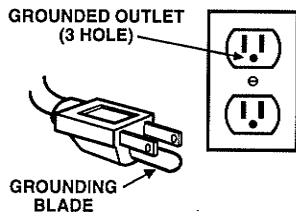

FIG. 2
2. Plug machine only into a grounded electrical outlet. (Figure 2)